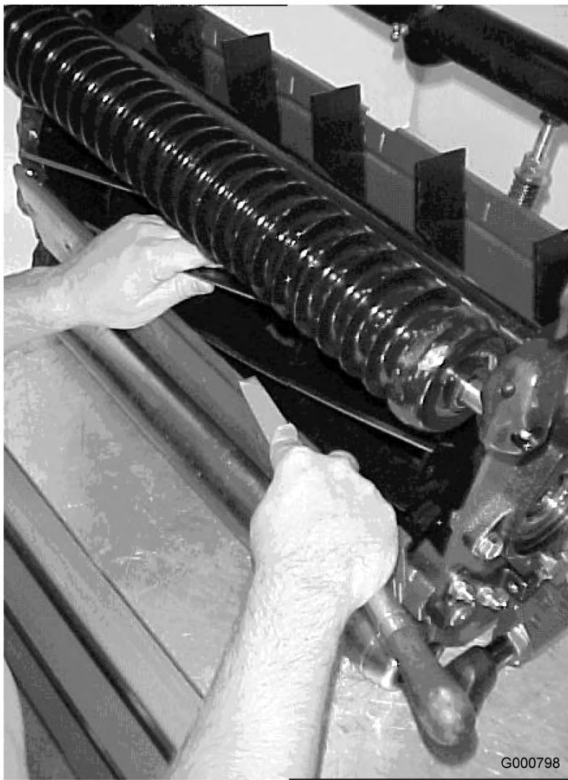

Figure 87
11. When the cutting unit is adequately sharpened, a burr will form on the front edge of the knife. Using a file, carefully remove the burr without dulling the cutting edge (Figure 87).